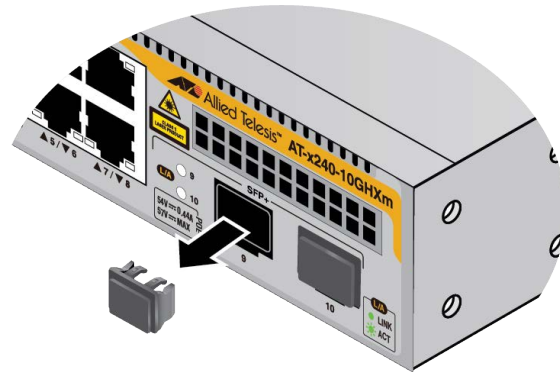

Figure 54. Removing the Dust Plug from an SFP+ Port
1. If the transceiver port has a dust plug, remove it as shown in Figure 54.